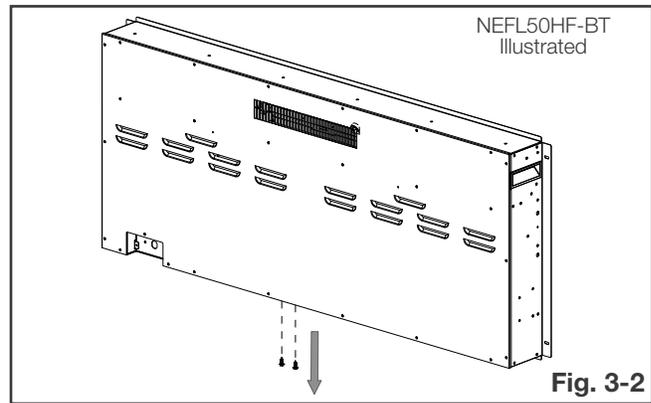

Fig. 3-2
- E. Remove the two screws at the bottom of the appliance (**Fig. 3-2**). Set the screws aside.